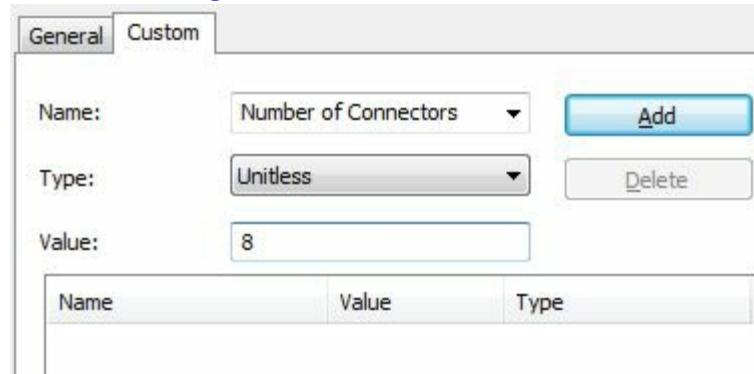

Figure-33. Specifying parameters for part
- Specify the desired parameters; refer to Figure-33 and click on the **Add** button to add it in the table; refer to Figure-34.